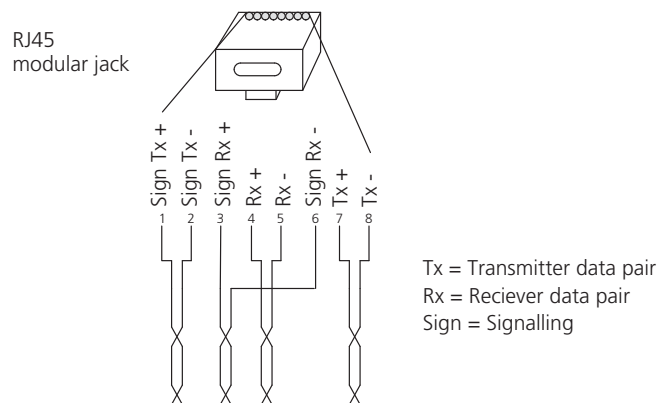
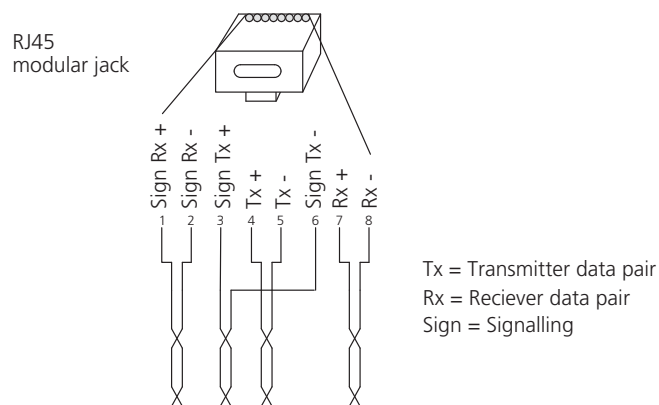

Figure 17. Connector pinning of the Sync IN cable
Figure 18. Connector pinning of the Sync OUT cable
- 2 Connect the cable to a RJ45 modular jack. For information on pinning, see Figure 17 and Figure 18.